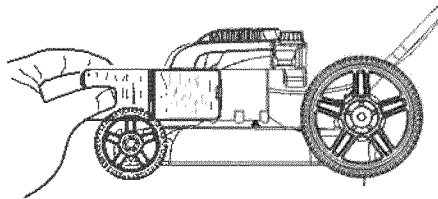

Figure 13
2. Replace the air filter (Figure 13).